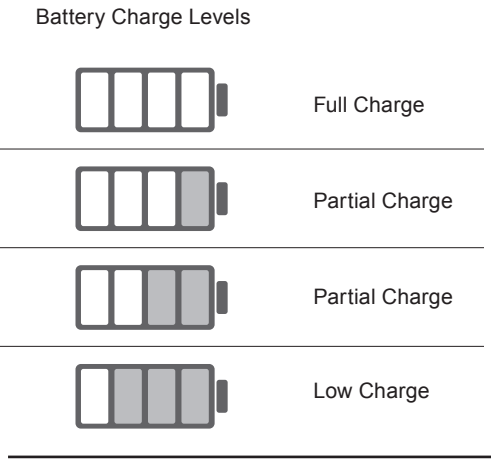

Figure 6 – Battery Status Symbols
4. You will see the charging symbol (white lightning bolt) and battery status symbol flashing in the corner of the screen. This lightning bolt charging symbol tells you EXOGEN is charging. Charge EXOGEN until a fully-charged battery is shown by the battery status. (Figure 6)
As you use EXOGEN, the symbol will change to show the reduced battery level. See **Figure 6**.